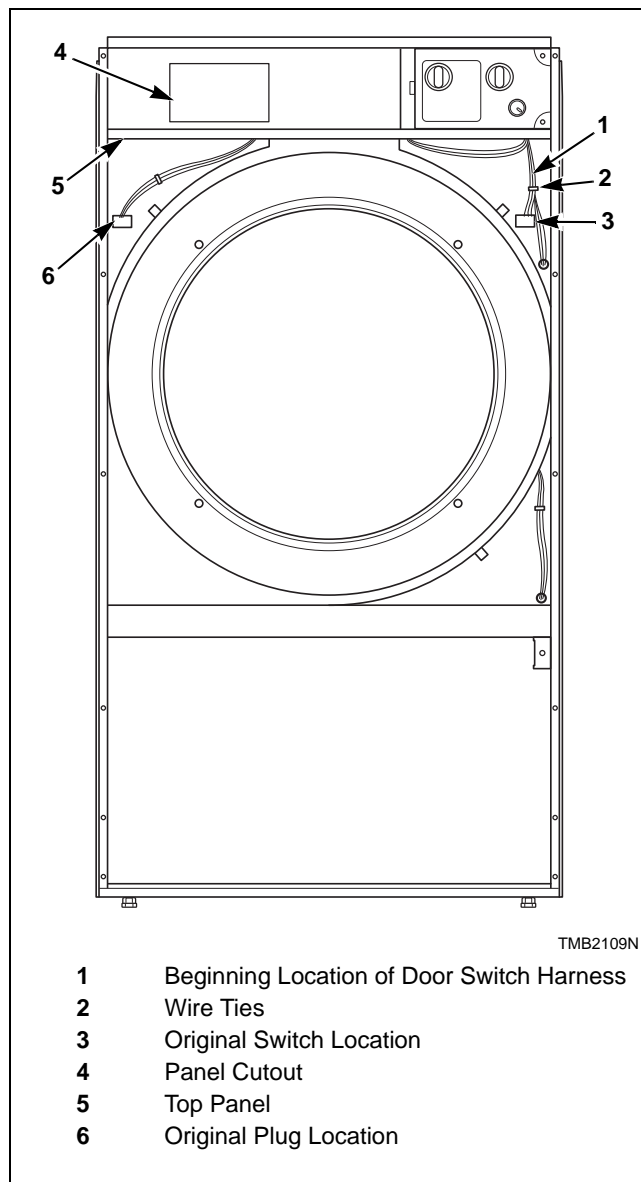

Figure 10
7. Cut wire ties to remove door switch harness bundle. Be careful not to damage harness wires. Refer to *Figure 10*.